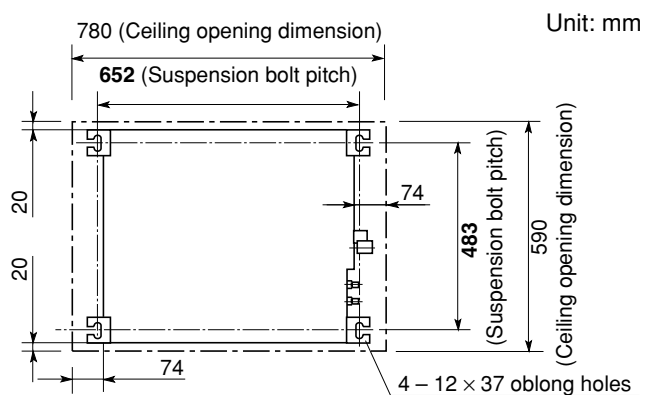
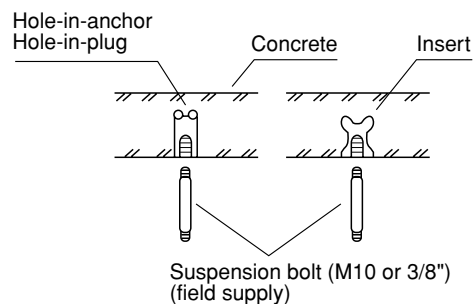

Fig. 3-1
Fig. 3-3
- (1) Follow the diagrams to make the holes in the ceiling. (Figs. 3-1 and 3-2)
- (2) Depending on the ceiling type:
- Insert suspension bolts as shown in Fig. 3-3
- (3) Cut the ceiling material, if necessary. (Figs. 3-1 and 3-2)